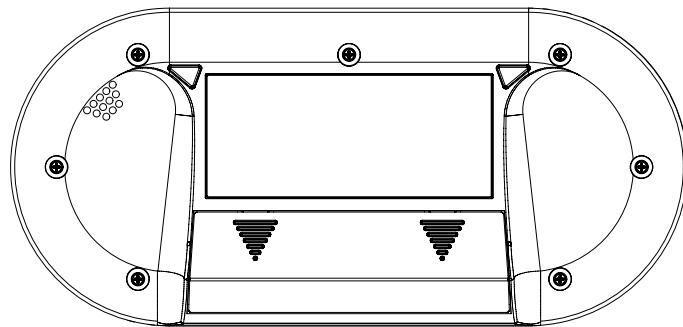

Figure 1. Screw Location
**Note:** Refer to figures 1 and 2 for the following procedures.